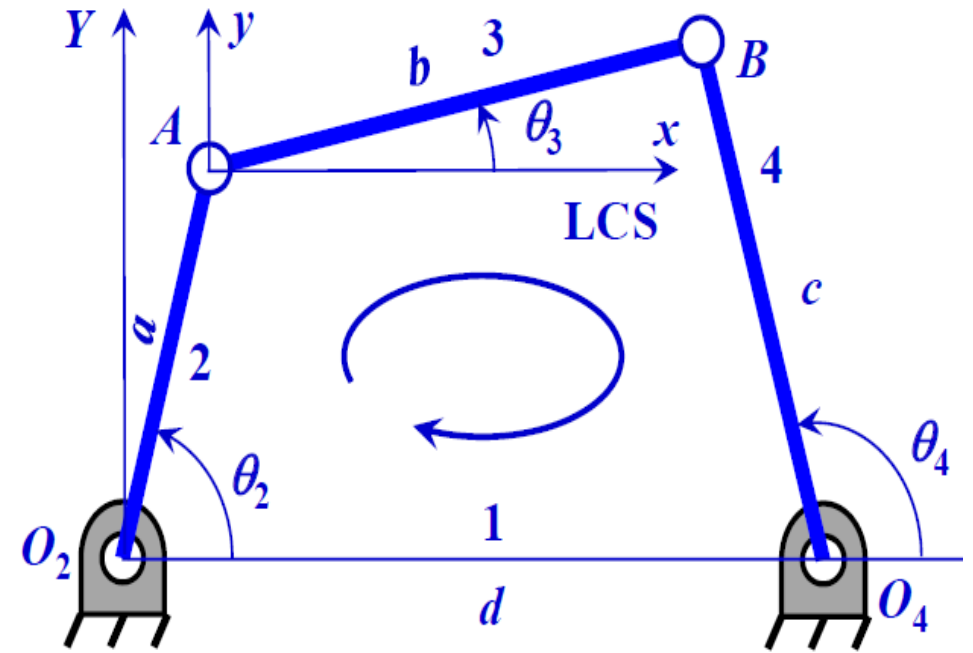

Figure 5
- Coordinates of nodes $\rightarrow$ Figure 5